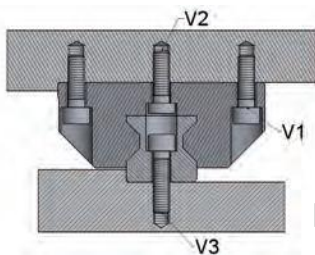

Fig.2
- Use of the pass-through holes as in fig.2. In this case, as far as the central fastening holes are concerned, you must use specific socket-head screws according to the DIN 6912 standard.